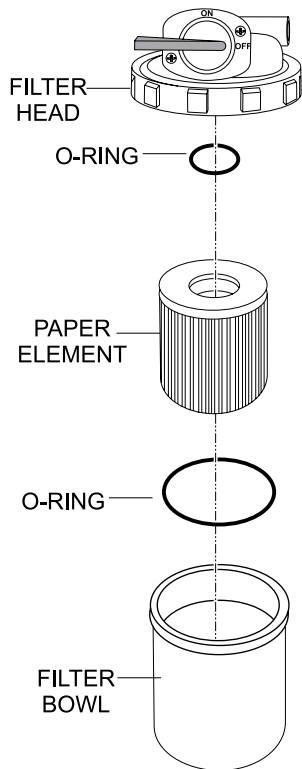

Figure 43. Fuel Filter Disassembly
3. Unscrew the **filter bowl** from the **filter head** (Figure 43).
5. Remove the **paper element** (Figure 43) from the fuel filter and rinse with diesel fuel.